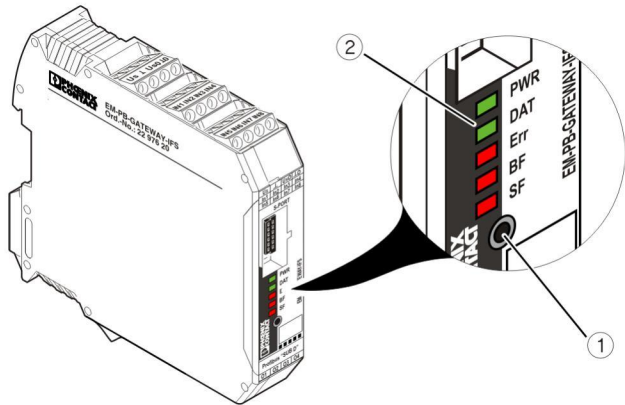

Figure 6 Operating and indication elements
1. Press button ① (see Figure 6 on page 2) at the EM-PB-GATEWAY-IFS for 6 seconds.
2. The LEDs ② at the EM-PB-GATEWAY-IFS display the current PROFIBUS address offset.
3. Set the PROFIBUS address offset by pressing the button ① at the EM-PB-GATEWAY-IFS (see table).
4. Press button ① at the EM-PB-GATEWAY-IFS for 6 seconds.